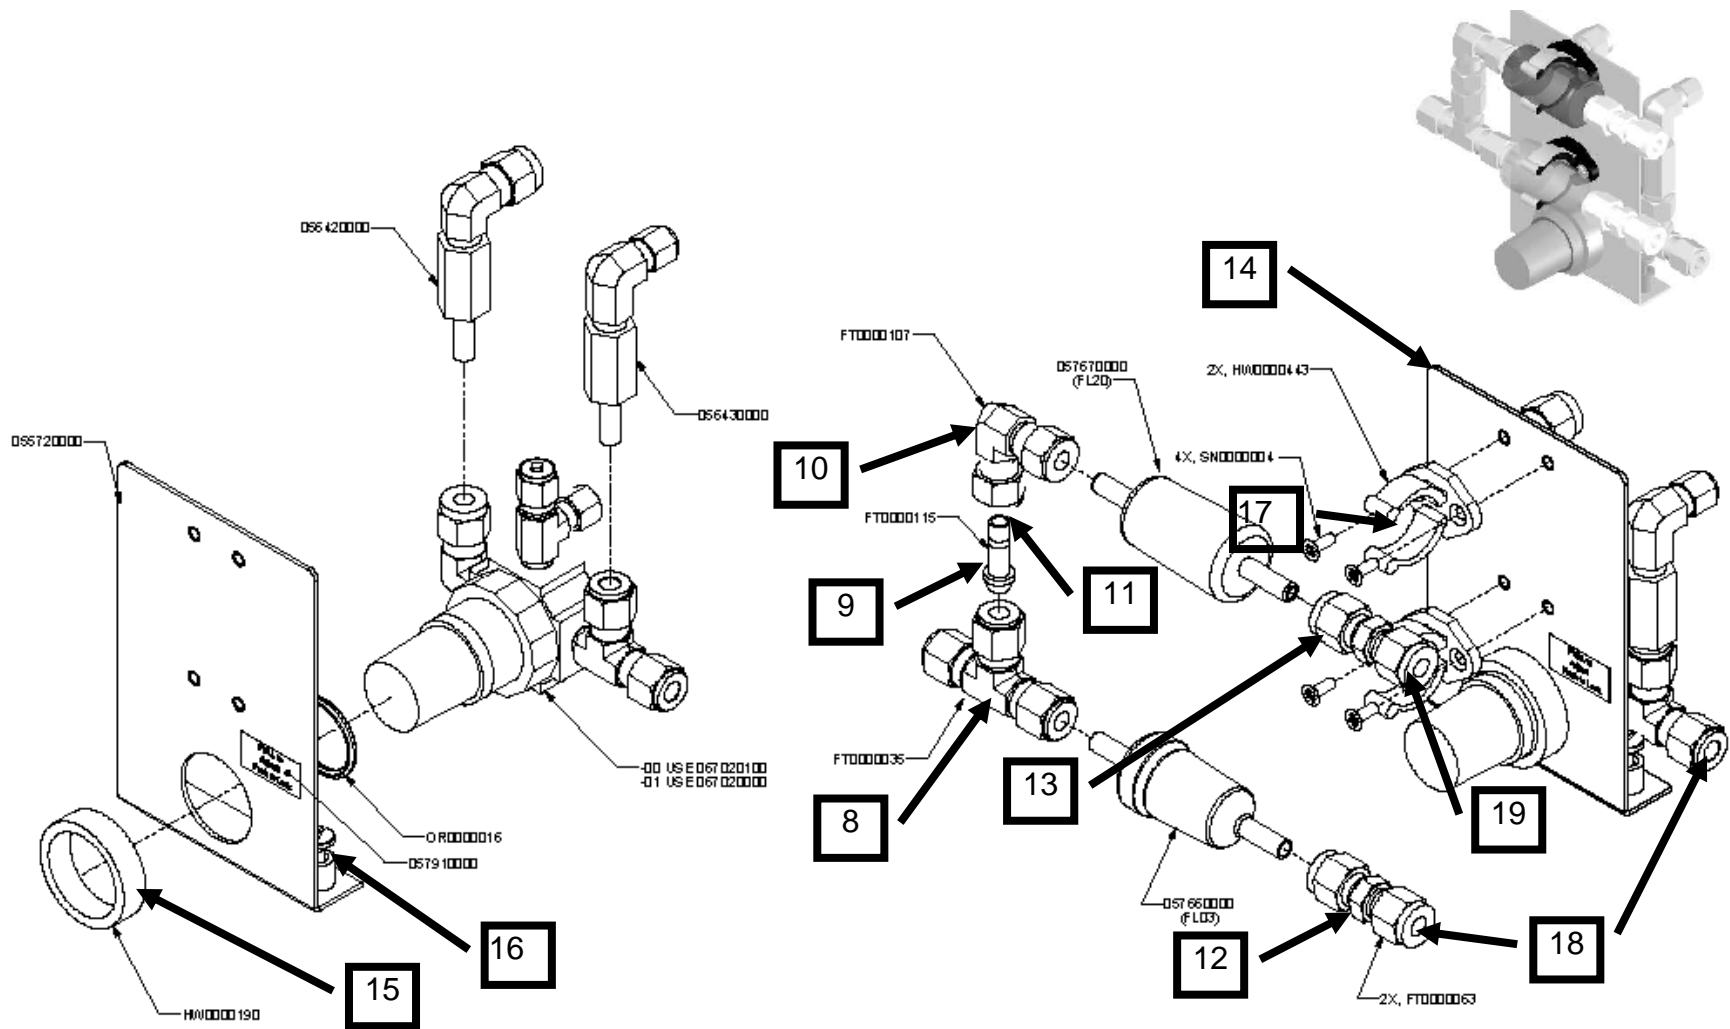

Figure 3
9. Install port connector (FT115) into the top of the "T". (Figure 3)
11. Install the bottom of the elbow (with carbon scrubber attached) onto the top of the port connector (FT115) and tighten all nuts so that the DFU and carbon scrubber are aligned over-under each other. (Figure 3)